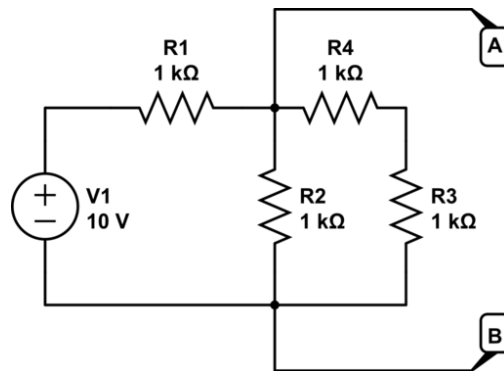

Figure 1: Resistor Network
- Calculate the Thevenin voltage and resistance for the circuit in figure 1, between the points A and B. Follow the guidelines in section 2.19 of your textbook.